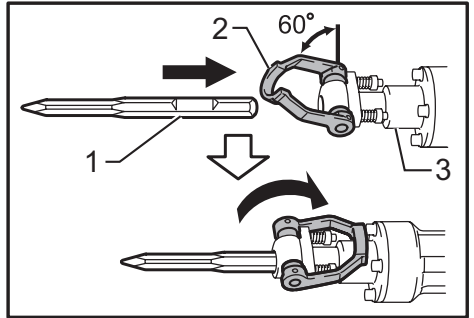

Fig.7
(2) For bits without a collar
- Fig.7: 1. Notched portion of the bit 2. Tool retainer 3. Tool holder